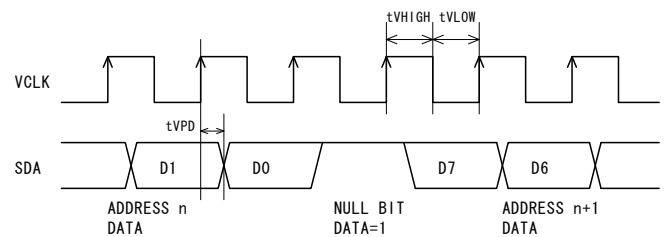

Fig.7 Null Bit
- In this mode, the NULL bit (High data) is output between the address data and the next address data. (See Fig. 7)